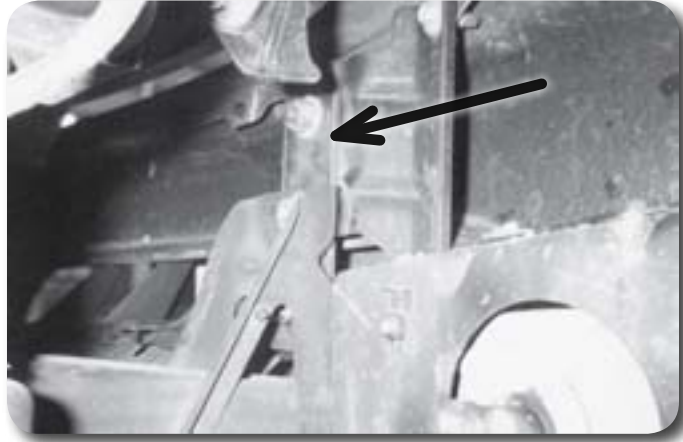

Figure 25
69. Using the stock nuts mount the bumper to the middle and upper holes in the relocating brackets. The lower bumper stud now mounts through the relocating bracket and the frame **Figure 25**.